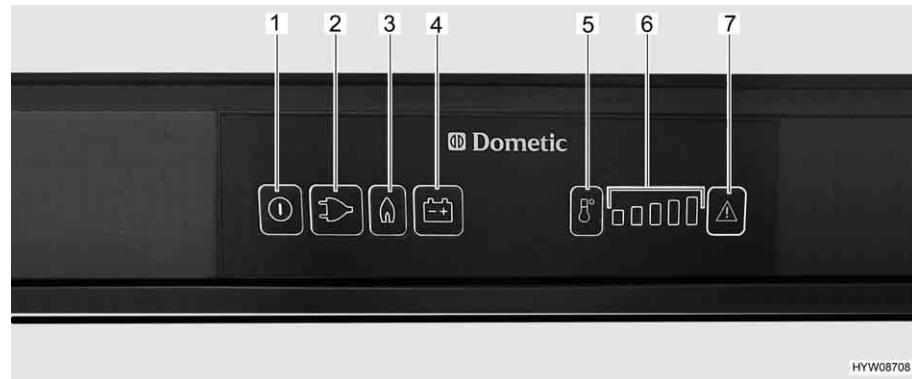

Fig. 197 Operating controls for the refrigerator (Dometic 8 series with MES)
- Press and hold the On/Off button (Fig. 197,1) for about 2 seconds. The refrigerator switches itself on. The button of the operating mode chosen most recently lights up.
- If necessary, press the button for the operating mode "Gas" (Fig. 197,3). The button lights up. Gas supply is open. Ignition will take place automatically. A ticking sound can be heard until ignition has been completed successfully.
- Use the temperature range selection button (Fig. 197,5) to set the refrigerating temperature.
- If necessary, press the button for the operating mode "230 V" (Fig. 197,2). The button lights up.
- If necessary, press the button for the operating mode "12 V" (Fig. 197,4). The button lights up.